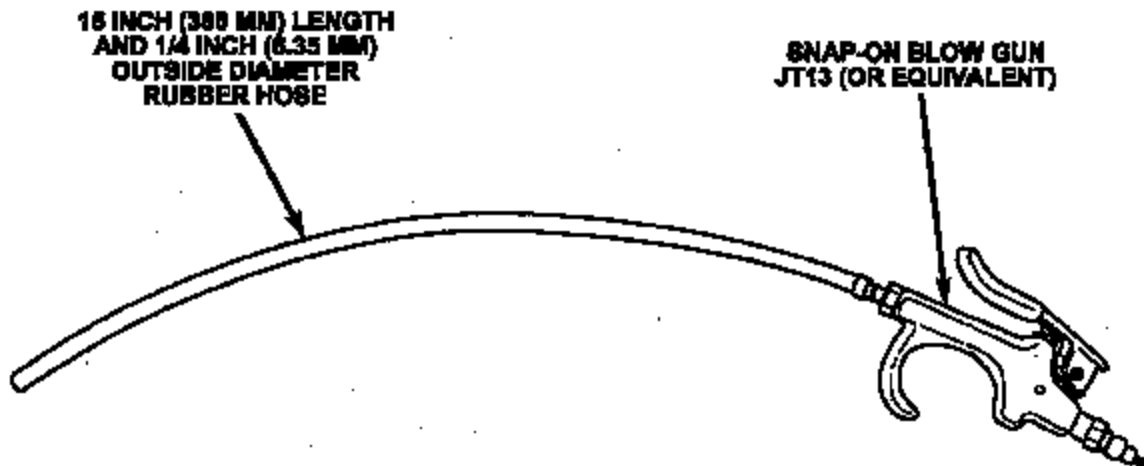

Figure 3
- Use a blow gun (Snap-on JT13 or equivalent) equipped with a 15" (380 mm) long piece of hose (1/4" (6.35 mm) outside diameter maximum) to direct air through the throttle cable (Figure 3).